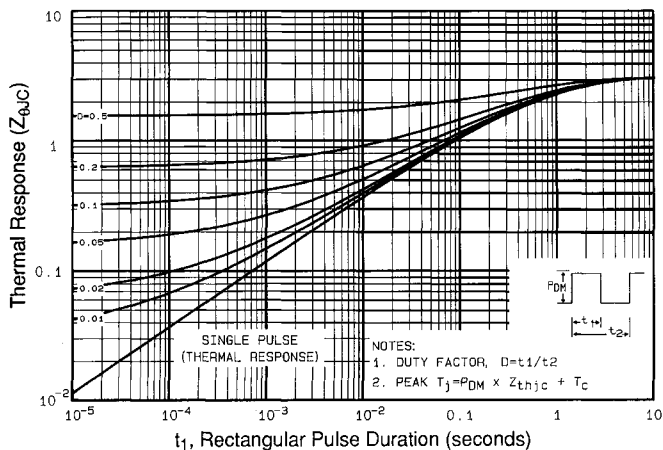

Fig 11. Maximum Effective Transient Thermal Impedance, Junction-to-Case
① Repetitive rating; pulse width limited by max. junction temperature (See Figure 11)
③ $I_{SD} \leq 28\text{A}$, $di/dt \leq 170\text{A}/\mu\text{s}$, $V_{DD} \leq V_{(BR)DSS}$, $T_J \leq 175^\circ\text{C}$
⑤ $t=60\text{s}$, $f=60\text{Hz}$